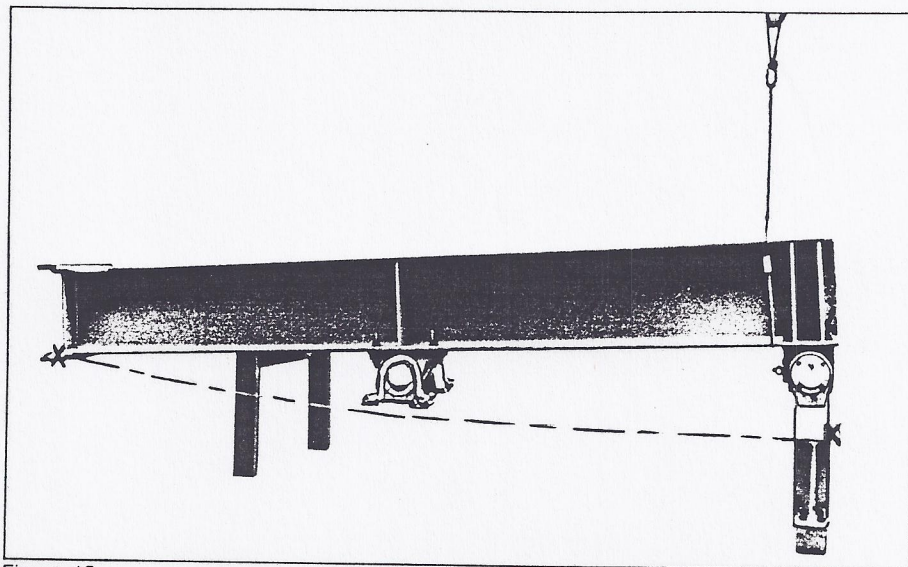

Figure 15
- i. Equalizer alignment is accomplished by checking the dimension between the outer front bolts of the upper pitman bearings and the two bottom mounting holes for the horsehead. These dimensions must be the same. See illustration in Figure 15.